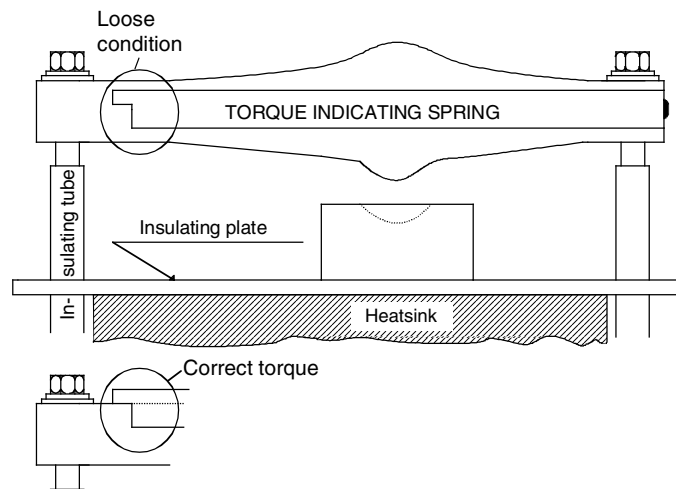

Figure 9-2 Aluminium spring with welded indicating spring
- Loosen the mounting clamp (see Figure 9-2) at the top of the thyristor stack.
- Tighten each nut in turn, half a turn at a time with the help of a ring spanner until the indicating spring clicks into position “correct torque” (see Figure 9-2). Do not tighten the screws any further.